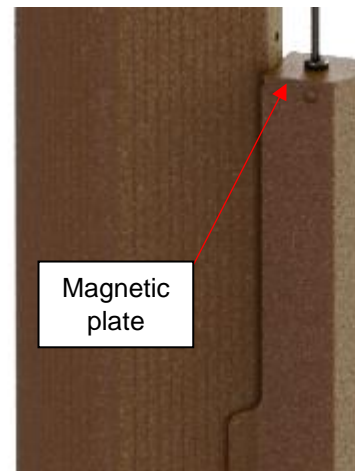
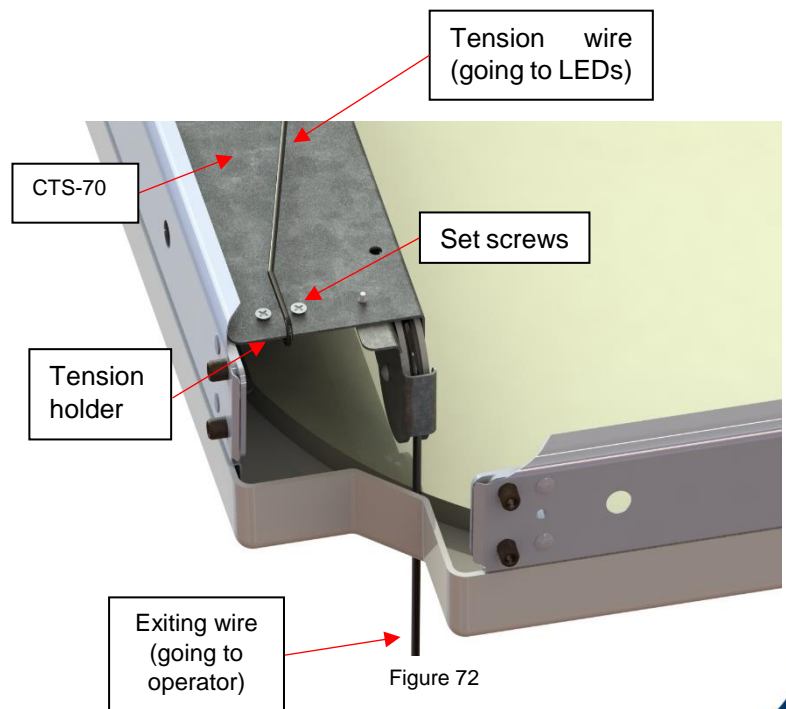

Figure 71
Figure 72
- 16) *If your cover is completely lowered onto the hot tub, the exiting wire (Figure 72) seems to have sufficient tension and the magnetic plate is properly positioned (Figure 71), skip to next section, Lifting mechanism assembly (continued). If not, follow next steps.*
- 18) Locate the set screws for the tension holder on the CTS-70 (Continuous Tension System). (Figure 72) Lightly unscrew them and pull back the tension wire until a slight resistance is felt. Once the resistance is felt, continue pulling another inch. Check the protruding wire going to the posts, and if the wire is tight enough, retighten the set screws.